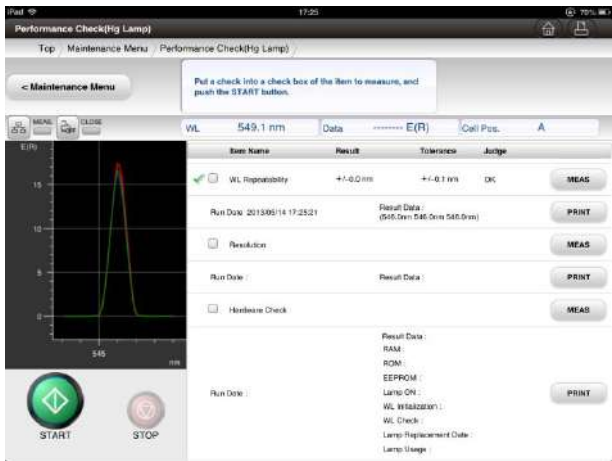

Fig. 6-33 Post-Wavelength Repeatability Check Screen
- (2) Set the Hg lamp at this point. See “5.4.4 Pen Type Low-Pressure Mercury Lamp Holder” on how to set the pen type low-pressure mercury lamp. If the lamp turns ON after it is set, press the **OK** button. Then, the measurement conditions are set and the Wavelength repeatability check is performed.
- (3) After the Wavelength repeatability check is finished, the Wavelength Repeatability Check Result screen (Fig. 6-33) is displayed. The measurement result is displayed on the Wavelength Repeatability section and “OK” if the value is within the standard or “NG” if the value is out of the standard is displayed. In the case of “NG”, perform the check again in the above procedure. If “NG” is displayed again, see “7.10 Troubleshooting.”